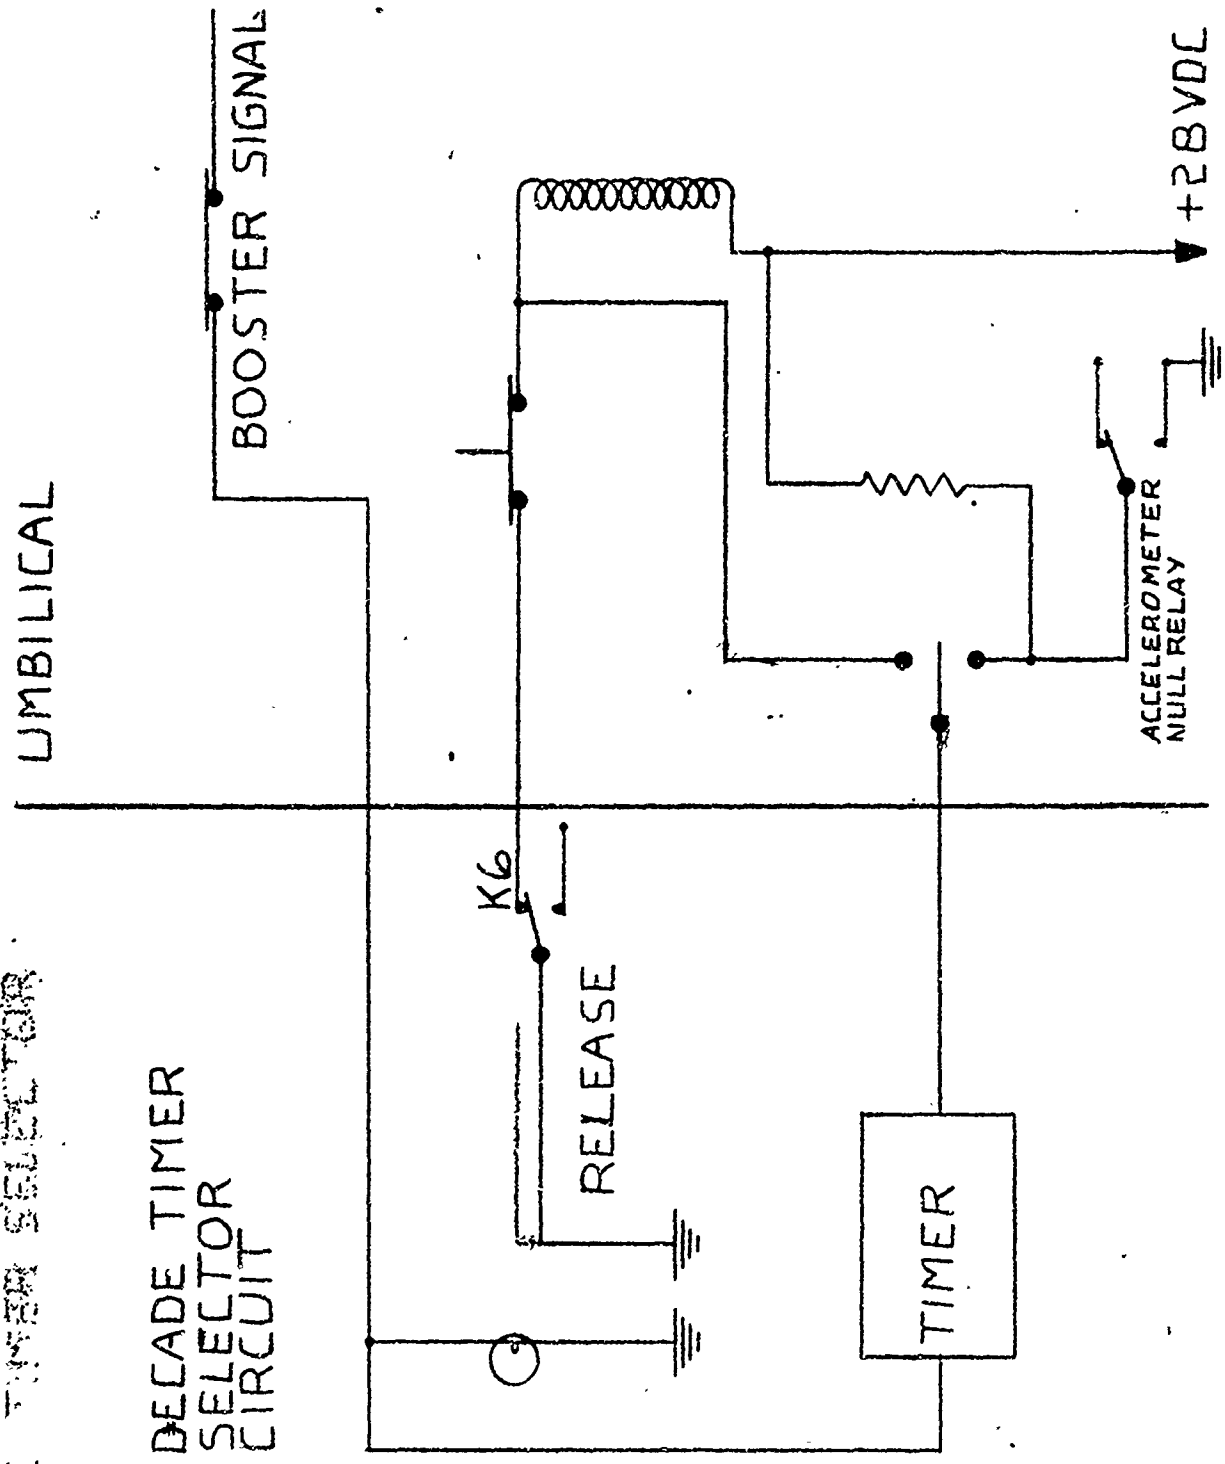

FIG. 4
The Decade Event Timer Unit is located at the top of the Autopilot Control Console Panel. The unit provides a means of timing the Airborne Autopilot Programmer from BOOSTER START to BOOSTER CUTOFF and the Integrating Accelerometer from INTEGRATOR NULL to the BOOSTER CUTOFF. Numerical indications of elapsed time appear on six (6) circular counter tubes arranged in a single row. The tubes are the glow-transfer type and the top of each protrudes through the panel which is radially numbered 0 through 9. (Figure 3 is a block diagram of the unit and Figure 4 is a simplified schematic of the Decade Timer Selector Circuit.)
(1) Timing Range